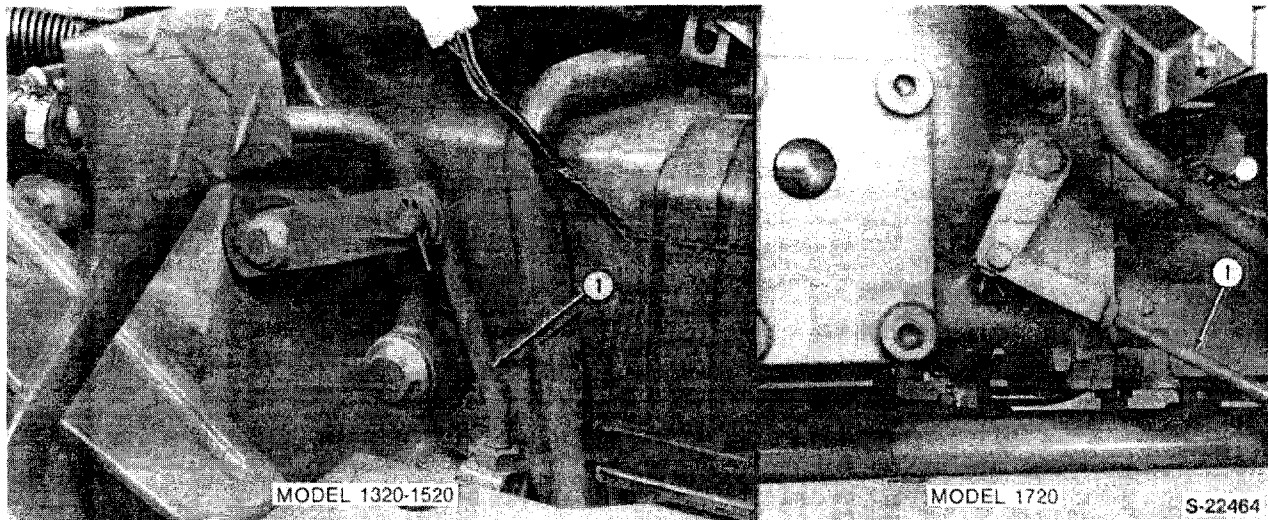

Figure 25
1. Remove the cotter pin and clevis pin and remove the adjustment rod from the clutch cross shaft, Figure 25.